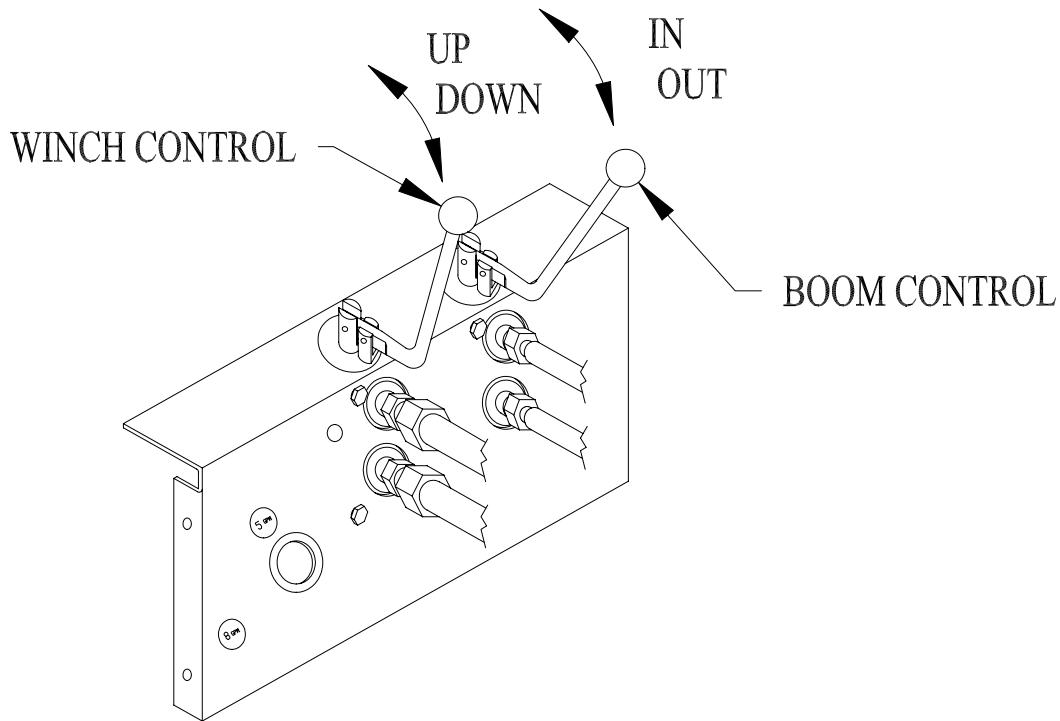

Figure 4-1.
5. Increase the engine speed and pull winch control lever up to raise a load and down to lower a load. See Figure 4-1. Never allow anybody to ride on the hoist. Make a few “dry runs” (without load, but **with** ballast) to become familiar with operation, controls, and HydraPak, and to test hoisting clearance. Always maintain 10-20 pounds of wire rope tension with a cable weight. Do NOT attempt to make any equipment adjustments during operation.
7. Use the boom control lever shown in Figure 4-1 to swing the boom 135° to load or unload material on the roof deck where you are working.